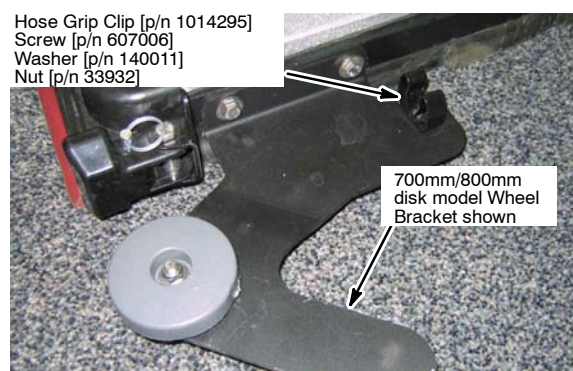

Fig. 24
6. Replace the bumper wheel bracket with the kit bracket and install a hose grip clip [p/n 1014295] on the bracket as shown (Figure 24).